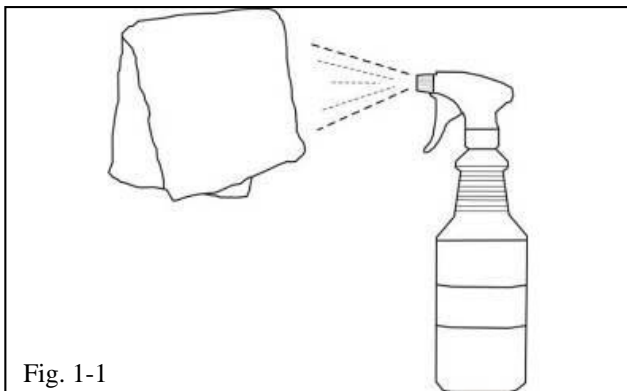

Fig. 1-1
(1) Always use a clean WypAll lint-free scratch resistant cloth.
(2) Shake VDC cleaner (PPO) or soap & water mixture (DIO) well.
- (b) Apply VDC cleaner or soap & water mix directly to the cloth. Do not spray cleaning solutions directly to the vehicle (Fig.1-1).